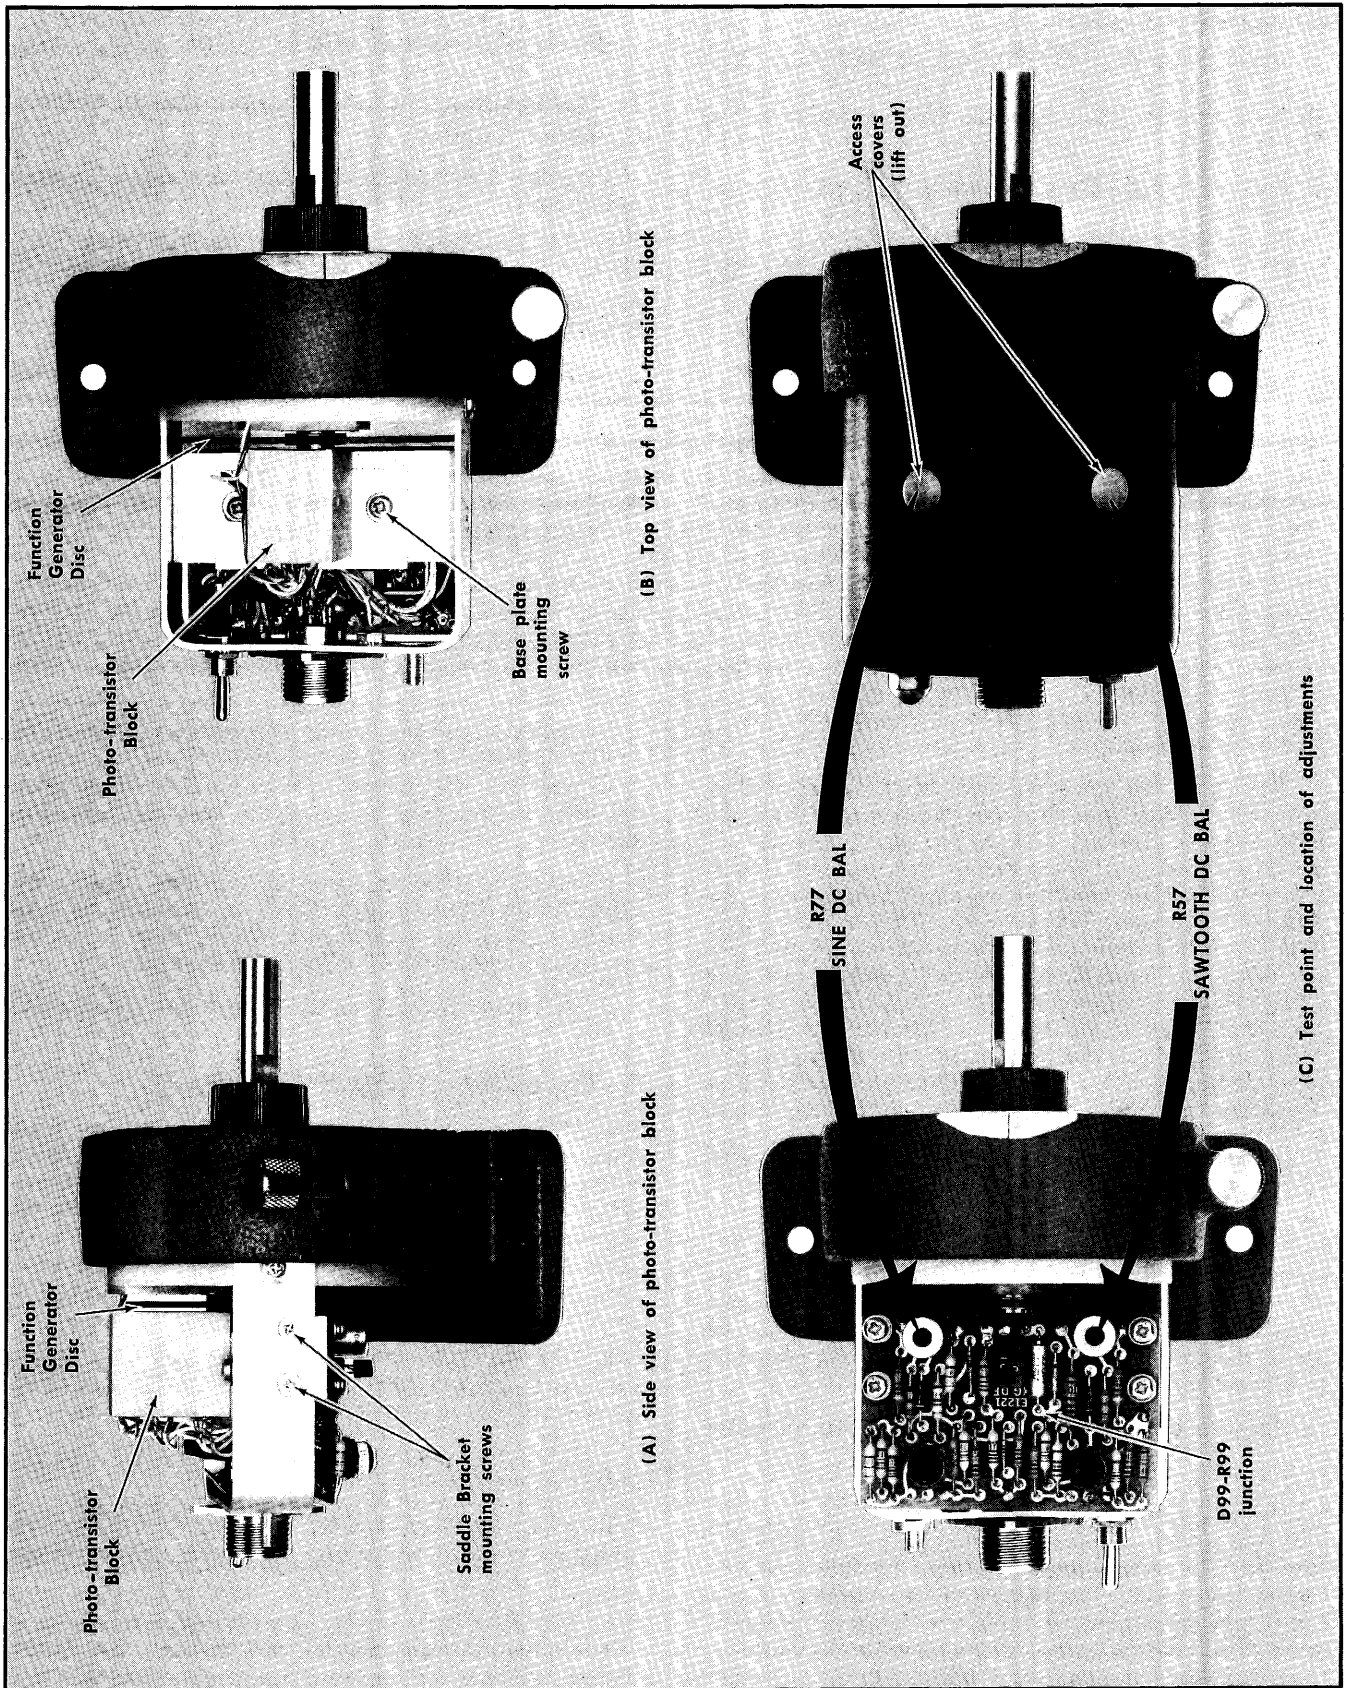
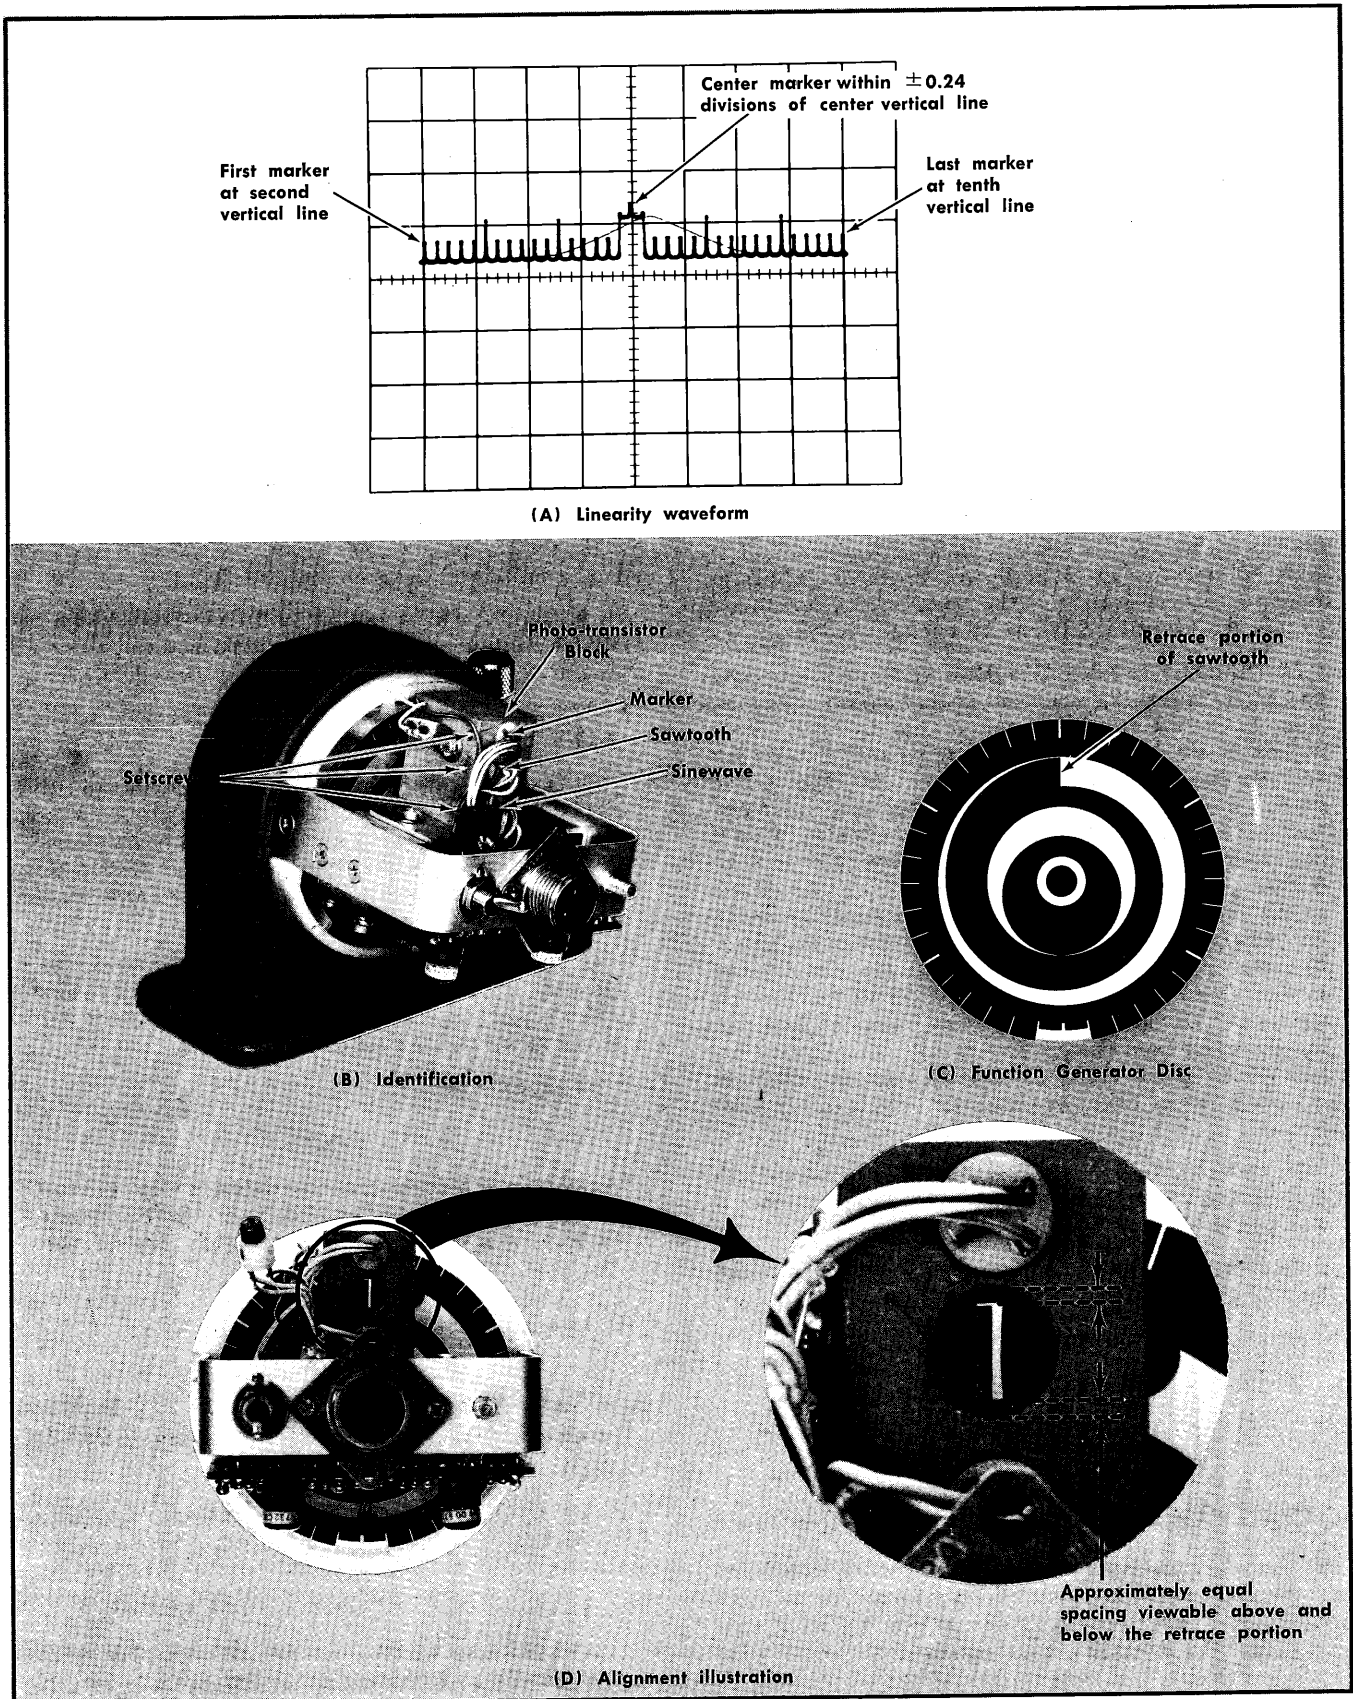

Fig. 5-32. Rotational Function Generator.
Fig. 5-33. Photo-transistor alignment information.
(2) Inspect the photo-transistor block for parallelism with the function generator disc when viewed from the side and top. See Fig. 5-32 (A) and (B). If they are obviously not parallel when viewed from the side, loosen the saddle-bracket mounting screws (Fig. 5-32A) until the bracket is slip-tight. Tilt the bracket front or back to obtain parallelism and then tighten the screws. Do not move the block any more than is necessary, and do not place it closer than approximately $\frac{1}{32}$ inch from the function generator disc. If the block is obviously not parallel when viewed from the top, loosen the photo-transistor base-plate mounting screws (Fig. 5-32B) and adjust it as necessary to make it parallel. Then tighten the screws.
b. Provide a common ground for the Test Oscilloscope (or meter). Then connect the test probe to the D99-R99 junction on the Function Generator circuit board. See Fig. 5-32 (C).
d. Adjust the 2B67 WIDTH and POSITION controls as necessary to have the first and last marker start at the second and tenth vertical line as in Fig. 5-33 (A).
e. CHECK—CRANK display linearity. Approximately equal spacings should exist between the markers. The $0/360^\circ$ marker (center of tall pedestal) should be within 0.24 divisions of graticule center. See Fig. 5-33 (A).
(1) Turn the CRT INTENSITY to minimum and remove the cable from the Function Generator.
(2) Note the depth to which the sawtooth photo-transistor (center transistor) is inserted into the photo-transistor block. See Fig. 5-33 (B). Then loosen the setscrew which holds the transistor assembly in place. Unscrew the setscrew four turns. Grasp the leads at the base and gently pull the photo-transistor assembly out of the block. Do not exert much force. If the assembly is not loose in the block, loosen the setscrew another two turns. If it does not release, use a small screwdriver or an awl to work the assembly loose. Once removed, move it aside so that the mounting hole can be sighted through.
(3) Place the Function Generator under a bright light and sight through the sawtooth photo-transistor mounting hole. Rotate the Function Generator shaft until the retrace portion of the sawtooth window can be seen through the hole as illustrated in Fig. 5-33 (C) and (D). The retrace portion should be centered in front of the hole, with equal spacings visible above and below the window. If it is not, loosen the saddle-bracket mounting screws (Fig. 5-32-A) until the saddle bracket is slip tight. Adjust the saddle bracket either up or down as necessary to obtain the centered display. Then check the position of the photo-transistor block. The front surface of the block (when viewed from the side) must be parallel to the function generator disc, and at least $\frac{1}{32}$ inch from it. Check that the shaft has been pushed back to take up end play before checking the spacing. Tighten the saddle-bracket mounting screws after the block has been properly positioned.
(4) Re-insert the transistor assembly to its original depth and tighten the setscrew by the number of turns that it was unscrewed.
(5) Reconnect the Function Generator cable and increase the CRT INTENSITY.
(6) Repeat steps 3-d and 3-e.
(7) Repeat step 2.
c. Connect the 1X probe's BNC connector (item 13) to the Calibrator Output connector and insert the probe tip into terminal B of the 2B67 INPUT connector. A patch cord or a short piece of wire can be used if a 1X probe is not available.
(1) Loosen the sawtooth transistor assembly setscrew (middle one) four turns. See Fig. 5-33(B).
(2) Push the transistor assembly in to increase the signal amplitude, or pull it out to decrease the signal amplitude. Apply very little force to the base leads. If the assembly is not loose, unscrew the setscrew two more turns and try again. If it still is not loose, work it loose with an awl or a small screwdriver tip.
(3) After the amplitude is between 4 and 10 divisions, retighten the setscrew by not more than the amount by which it was loosened. Make sure that the base is not in or out so far that the setscrew will miss it.
(4) Repeat step 2.
d. ADJUST—Sine wave signal DC balance. Remove the R77, SINE DC BAL, access cover (Fig. 5-32) and adjust R77 as necessary to center the trace horizontally.
g. (Calibration Procedure only.) ADJUST—Sine wave signal amplitude. Adjust the sine wave photo-transistor position in the same manner as described for the sawtooth photo-transistor in step 4-h, except that it should be adjusted for 8 divisions of horizontal trace. See Fig. 5-33(B) for the transistor location. Then repeat step 5.
l. (Calibration Procedure only.) ADJUST—Marker signal amplitude. Adjust the marker photo-transistor position in the same manner as described for the sawtooth photo-transistor in step 4h, except that it should be adjusted for at least 0.6 division between the baseline and the top of the center marker. See Fig. 5-33(B) for the transistor location.
- c. ADJUST—Sawtooth signal DC balance. Remove the R57, SAWTOOTH DC BAL, access cover Fig. 5-32(C) and adjust R57 until minimum trace shift accompanies ROTATION DIRECTION switching.
- g. ADJUST—Sine wave signal DC balance. Remove the R77, SINE DC BAL, access cover Fig. 5-32(C) and adjust R77 until the trace is centered.
Adjust R57, SAWTOOTH DC BAL (Fig. 5-32(C) as necessary to obtain equal values with the ROTATION DIRECTION switch (back of FUNCTION GENERATOR) in either position. Note the value.
Adjust R77, SINE DC BAL (Fig. 5-32(C) as necessary to make the voltage equal to that at terminal B.